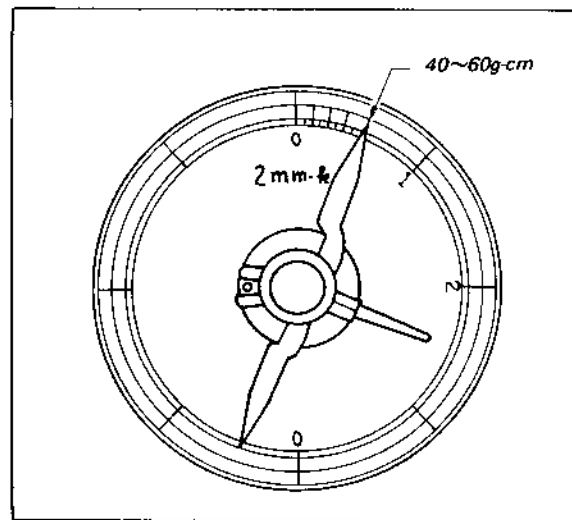

Fig. 3-9 Torque driver indication
4. Observe the readings on the scale. It should be between 40 and 60 gram-cm as shown in Fig. 3-9.